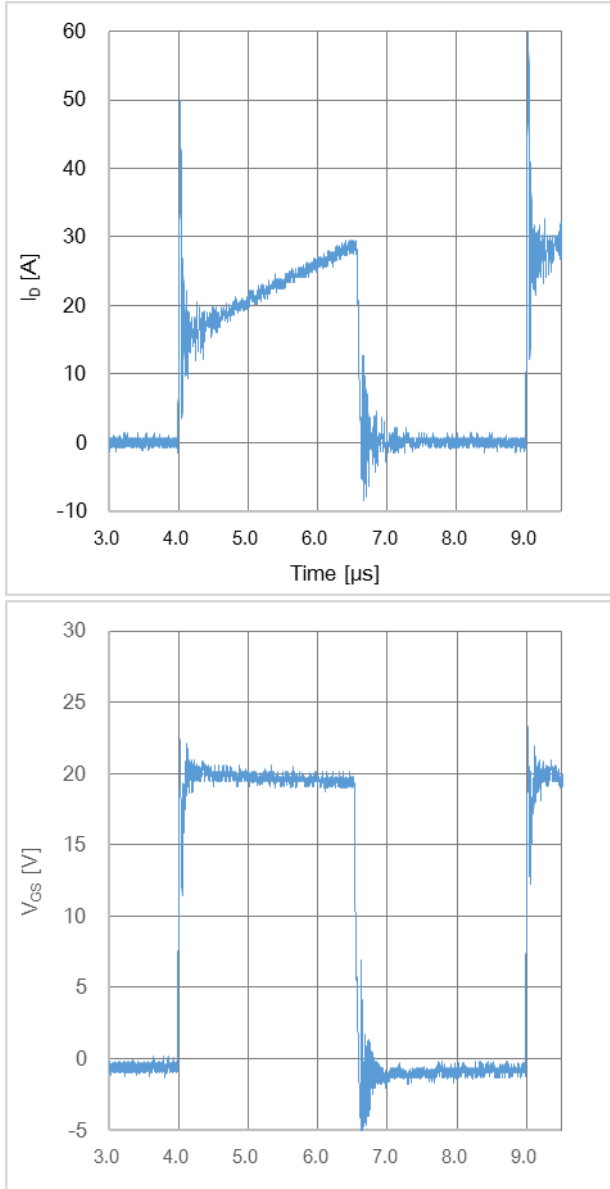
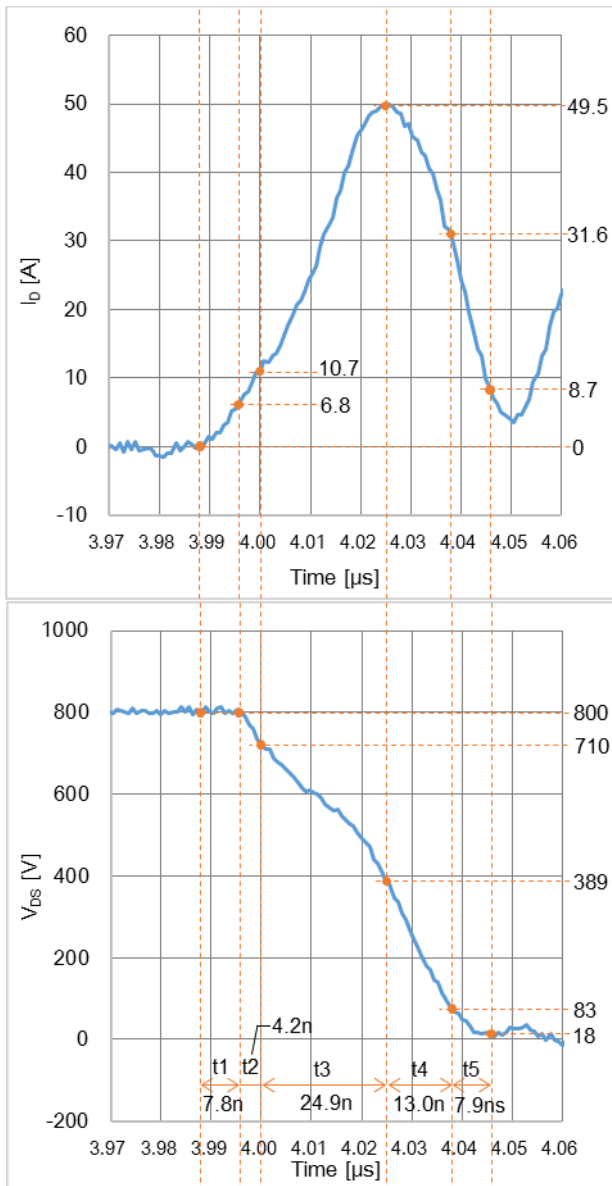

Figure 5. Switching waveforms to be used for power loss calculation
Figure 6. Enlarged waveforms and measured values in each section during turn ON
Calculate the power loss from the measured switching waveforms (Figure 5). Enlarged waveforms during turn ON, conduction, and turn OFF are shown in Figures 6, 7, and 8, respectively.
Figure 6 shows the enlarged waveforms during the turn ON. Since the slope changes in the middle of the waveforms, divide them into sections with the same slope. However, this division is subjective due to complexity of the waveforms. For each section, read the start voltage and current, the end voltage and current, and the time. Substitute the values into Equation (A) in Table 1 to calculate the power loss.